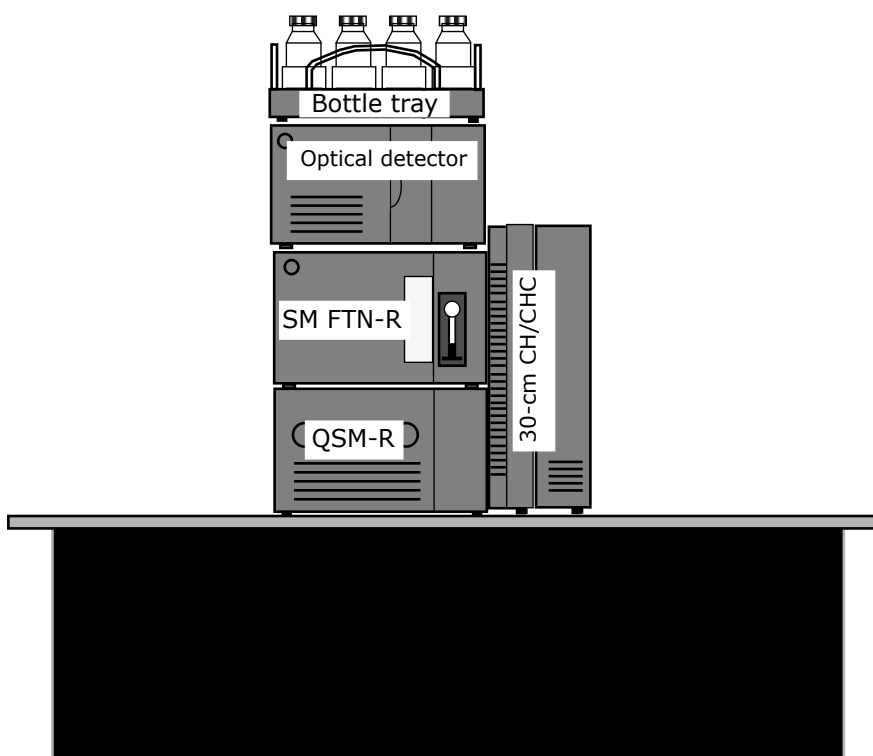

Figure 1 - Positioning the system components (PC not shown)
Refer to Figure 1 and Figure 2 for positioning guidelines of typical configurations. The steps that follow the figures provide detailed positioning instructions applicable to all configurations.
1. Position the QSM-R and SM FTN-R on the laboratory bench, as shown in Figure 1 and Figure 2.